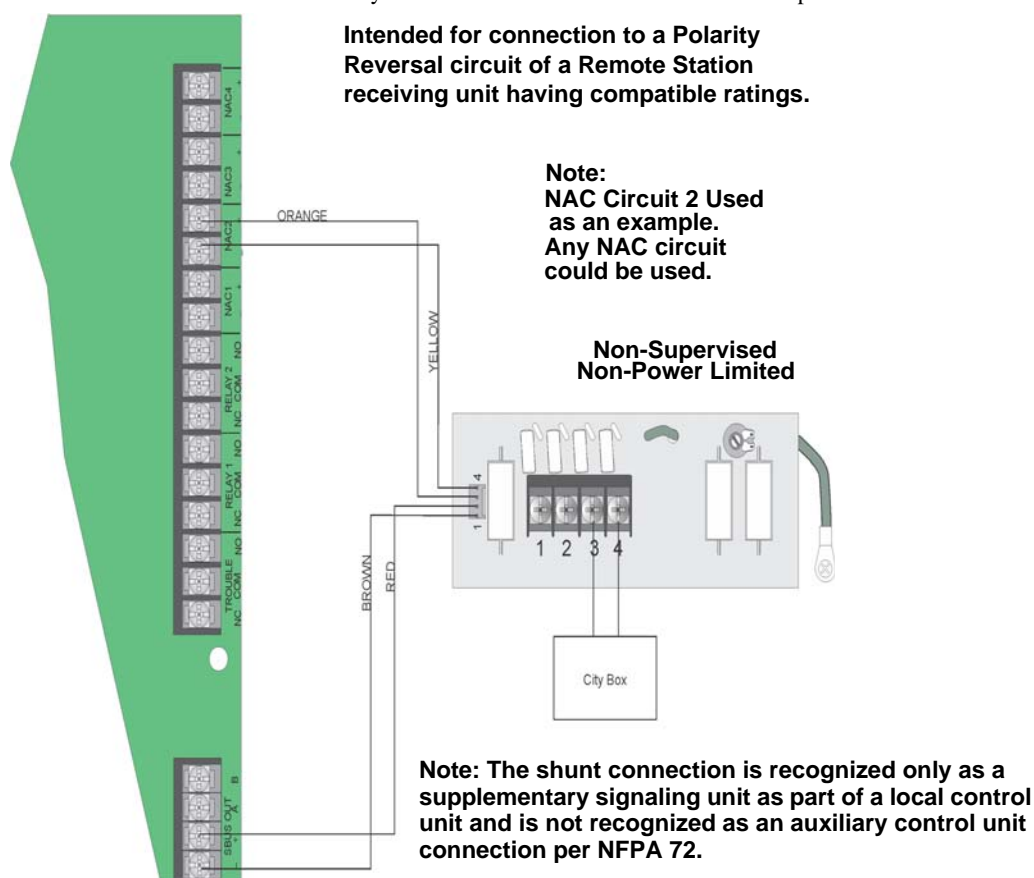

Figure 4.44 City Box Connection
2. Wire the 5220 to the control panel as shown in Figure 4.44. This drawing also shows how to connect the city box coil to terminals 3 and 4 on the 5220. Do not install an EOL resistor in the terminals of the NAC circuit used for this application.